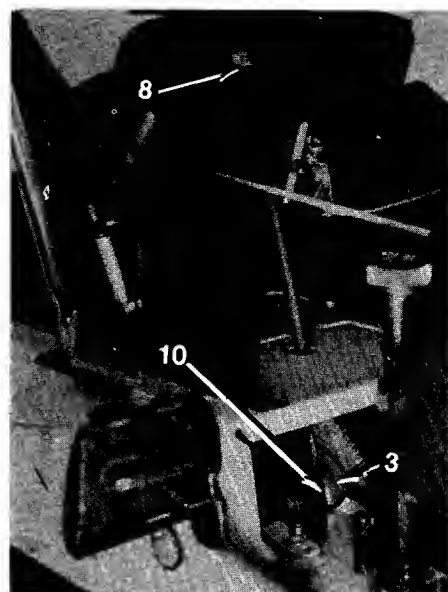

Figure 9.
3. **Steering Gears.** Lubricate the two gears with automotive multi-purpose grease once a season. (See figure 9.)
8. **Steering Column Bearings (2).** Oil once a season with SAE 30 oil. (See figure 9.)
10. **Steering Shaft Bearings (2).** Requires no lubrication. (See figure 9.)